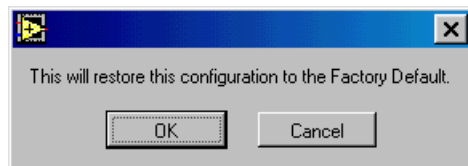

Figure 7-5. Restore Factory Defaults Message Box
- ❑ **Restore Factory Defaults** — Mark this option to restore the factory default configuration settings. Before restoring the settings, the LMT software asks you to confirm that you want to replace the current settings with the factory default settings (Figure 7-5). Click **OK** to restore the factory default configuration settings and update the SSU-2000 configuration settings and the LMT display. Click **Cancel** to close the message box without restoring the factory default configuration settings, or updating the SSU-2000 and the LMT display.